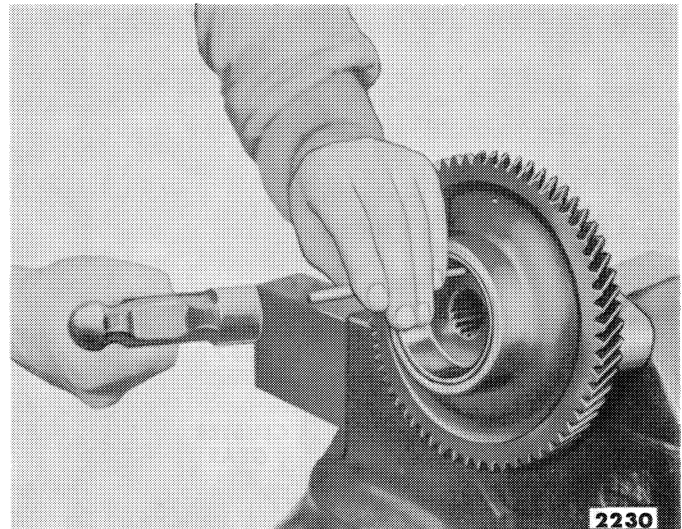

Figure 26—Removing Bearing from P.T.O. Countershaft Gear
1. Remove the bearing from the front of the P.T.O. countershaft gear with a punch and hammer through the holes in the gear, Figure 26. Remove the bearing cup with Puller 943 and a slide hammer.